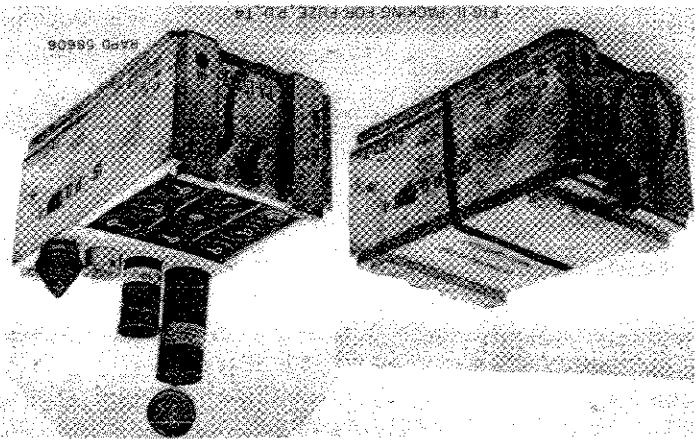

FIG. 11. PACKING FOR FUZE, P.D. T4
a. Nose, switch, and booster housing are assembled and packed in individual sealed metal containers 15 of which are packed in a wood-en box 12" x 20 7/16" x 10 5/8". The boxes are marked, "T5 P.D., T4" or "T5 P.D., T5" (fig. 11 and 12). Fuze lot number is stenciled on box, metallic container, and booster housing. A cardboard cylinder and a silica gel moisture absorber are packed in the place of the battery in each metal container.